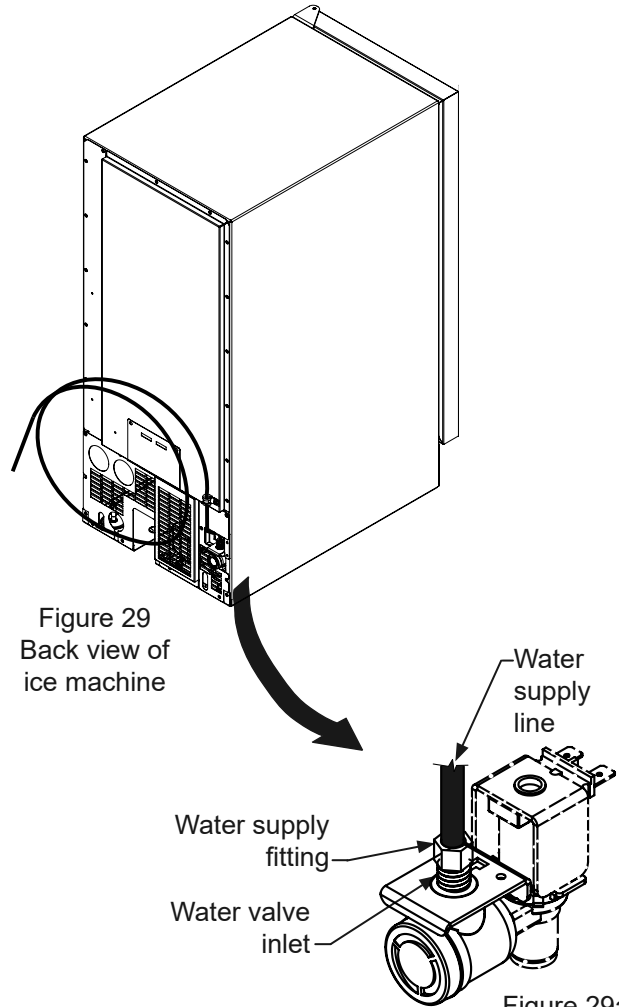
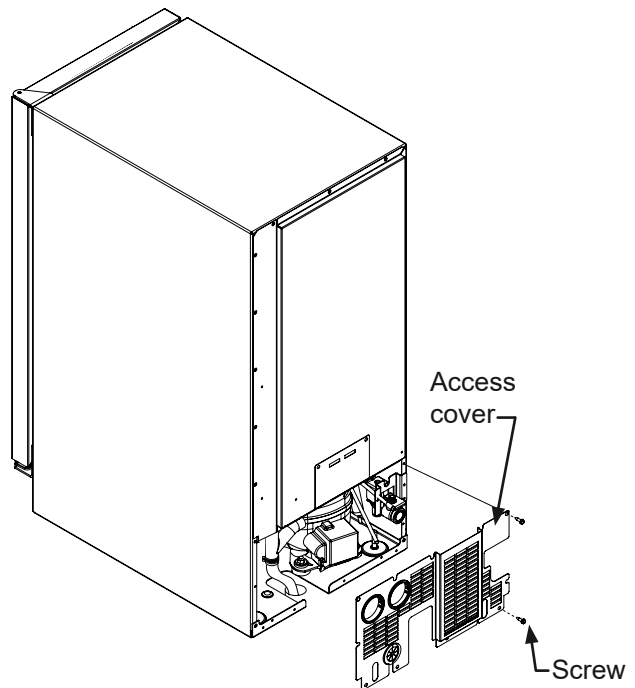

Figure 29a
Figure 30
2. Disconnect the water supply fitting at the inlet of the water valve. (See Figure 29a).
3. Change the electronic control to the "CLEAN" position for approximately one (1) minute. This will energize and open the water valve and remove most of the water from the water valve and the water valve's outlet water line to the reservoir.
6. Remove the access cover from the rear of the ice machine. (See Figure 30).